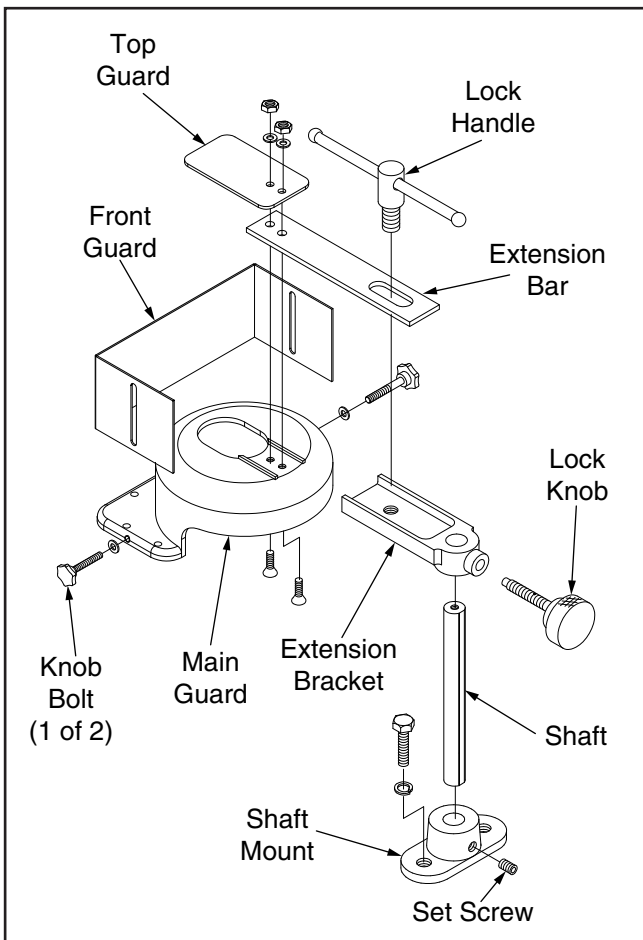

Figure 25. Safety guard assembly.
1. Attach the shaft mount bracket (see **Figure 25**) to the back of the table with the (2) pre-installed hex bolts and lock washers.
4. Sandwich the extension bar between the top safety guard and the cutterhead guard, then secure the components with (2) ¼"-20 x 1" flat head screws, (2) ¼" flat washers, and (2) ¼"-20 hex nuts, as illustrated in **Figure 25**.
5. Attach the front safety guard to the sides of the cutterhead guard with (2) ¼"-20 x ½" knob bolts and (2) ¼" flat washers.